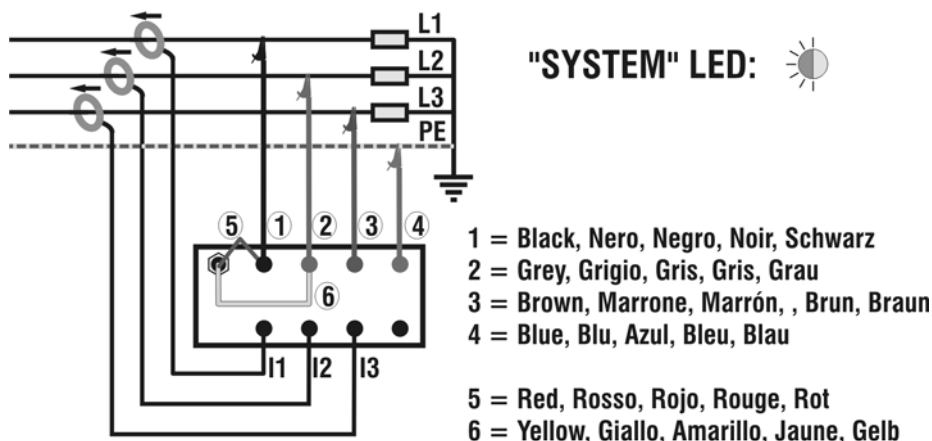

Fig. 3: Connection of the instrument to a three-phase 3-wire system
- Connect the supply terminals (red and yellow) respecting the connections indicated in the Fig. 3
- Connect the cables of the phase voltages L1, L2 e L3, respecting the connections indicated in the Fig. 3. Connect the blue cable to the protective conductor.
- If you want to measure currents and powers, connect the clamp meters to the phase conductors, **respecting the direction indicated on the clamps** and the connections indicated in the Fig. 3